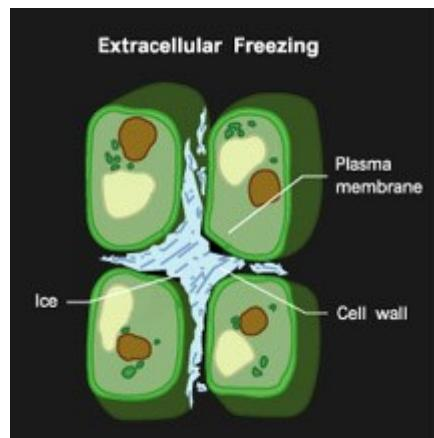

Figure 1. Ice formation in the extra-cellular space.
- **It is the ice formation inside the plant tissue rather than low temperatures per se that cause the damage.** The formation of ice crystals can be either inter-cellular (space between cells) or intra-cellular (within the protoplasm of cells), the latter causing cell death [1] (**Figure 1**). The general hypothesis is that during spring frosts, freeze injury is mainly caused by inter-cellular rather than intra-cellular ice formation [1, 2]. The formation of inter-cellular ice crystals produces a water vapor deficit/gradient between the interior and the exterior of the cells. As a result, water migrates from the inside to the outside of the cells and deposits on the ice crystals formed in the inter-cellular spaces. If ice continues to grow, the cells become more desiccated and lose their turgor [3]. Freezing-induced dehydration can also permanently damage the structure of cell membranes and other cellular components. This usually causes a flaccidity and/or discoloration of the damaged tissue [4]. Thus, the current view is that dehydration injury is the main cause of frost damage. [2].